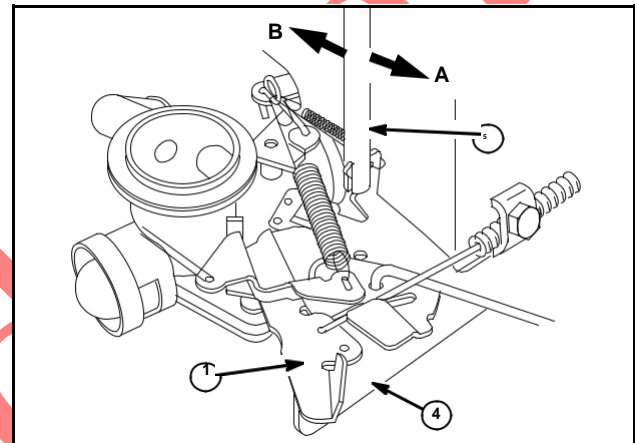

Fig. 6
3. **Dual Spring:** Using Tool #19229 or 19352, Tang Bender (5), bend secondary governor spring tang, ("A" to increase, "B" to decrease), until there is no tension on secondary spring, Fig. 6.
5. **Dual Spring:** Bend secondary governor spring tang until "TOP NO LOAD" RPM is obtained, Fig. 6, as specified in Engine Sales Manual, MS-4052 or MS-6225, Service Engine Sales Manual microfiche.